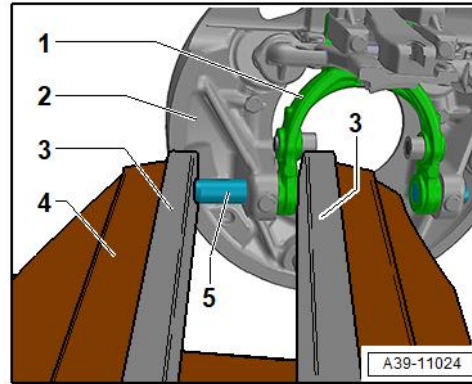

Figure 15. Pressing a pin with a vise.
- Tension the gear carrier (Figure 15, position 2) and pin -5- as shown into the vise (Figure 15, position 4).
- Push in the pin (Figure 15, position 5) so far that it is flush with the inner side of the shift fork (Figure 15, position 1).
- Check if the shift fork (Figure 15, position 1) can be swiveled with ease.